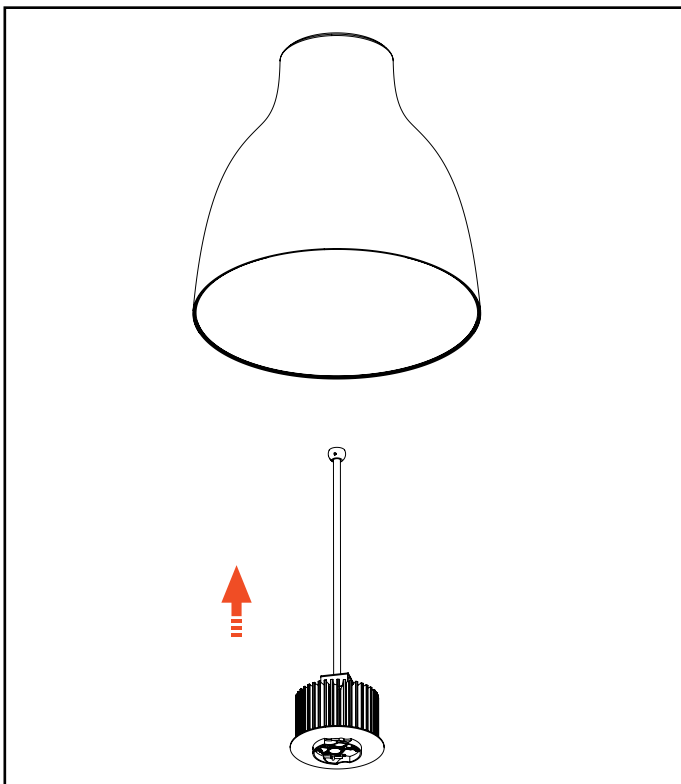

Figure 20
6. Take out the **Canopy Cover (H)** from the Stem ball. Carefully take out the shade assembly from the top of the stem by inclining it and sliding over the shroud (Figure 20)